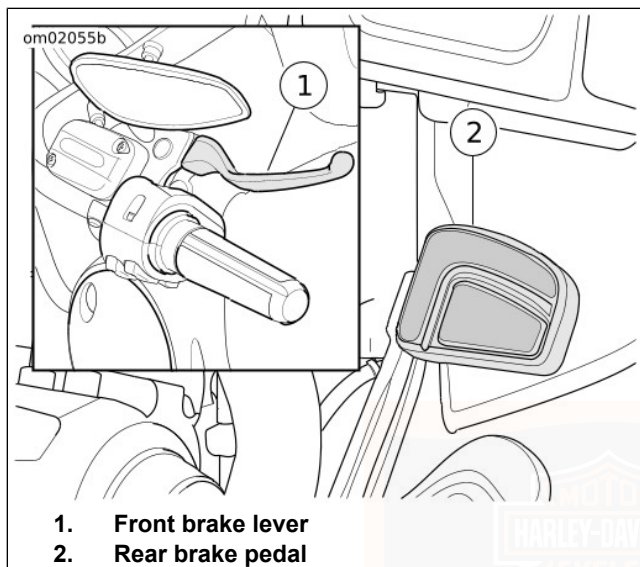

Figure 44. Brake Controls
See Figure 44. The front brake hand lever (1) controls the front wheel brake. The lever is on the right handlebar. Operate the hand lever with the fingers of the right hand.
See Figure 44. The rear brake pedal (2) controls the rear wheel brake. The pedal is on the right side. Operate the rear brake pedal with the right foot.